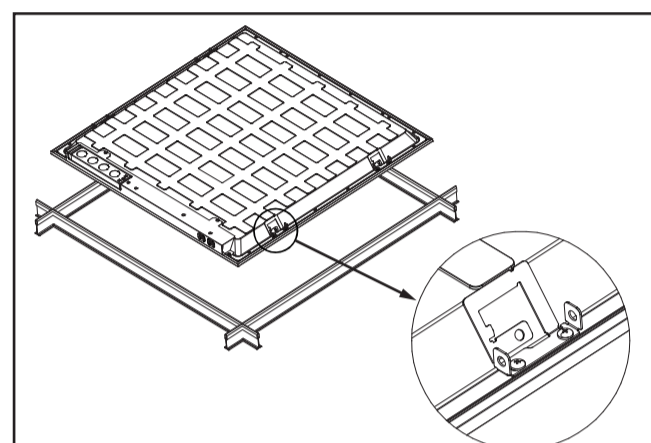

Figure 2.
- Pass fixture through the grid at a 45 degree angle and lay fixture into the grid (Fig. 2).
NOTE: Fixture weights are below. Ensure grid location is rated for fixture weight before moving to next step. If unsure, use cable to support fixture to appropriate support beam above fixture using the circular holes in the corner tabs (Fig. 2).